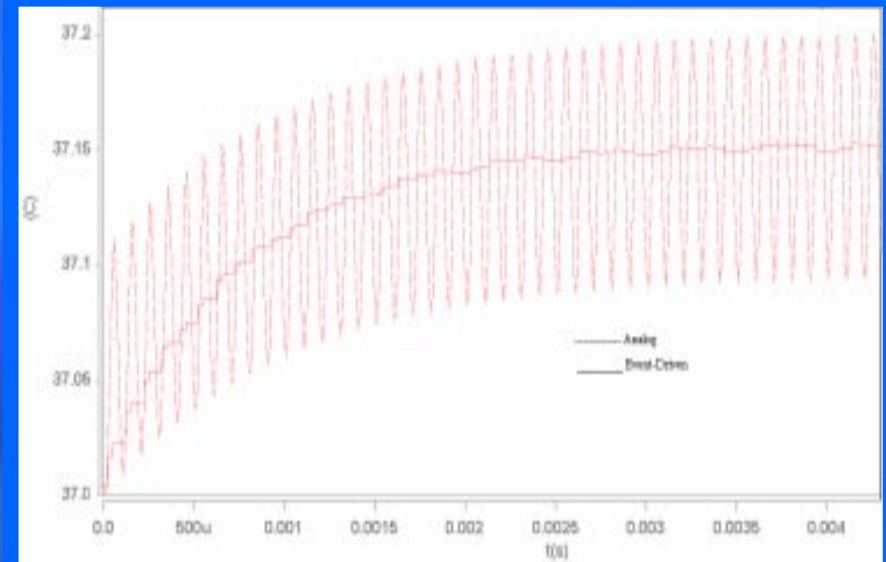

Fig. 6. Simulation Results —stead- state comparison.
- Temperature evaluation every 50 analog solution points (Fig. 6)